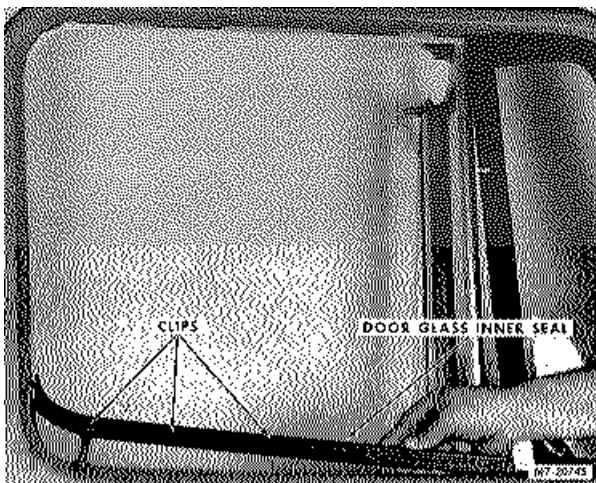

Fig. 16 Door Glass Inner Seal
Door glass inner and outer seals are retained in bottom of window frame by clips (Fig. 16).
2. Carefully pry out inner and outer seals from window frame (Fig. 16). Apply pressure at clips to avoid damage. If clips are broken during removal, a replacement seal will be necessary.